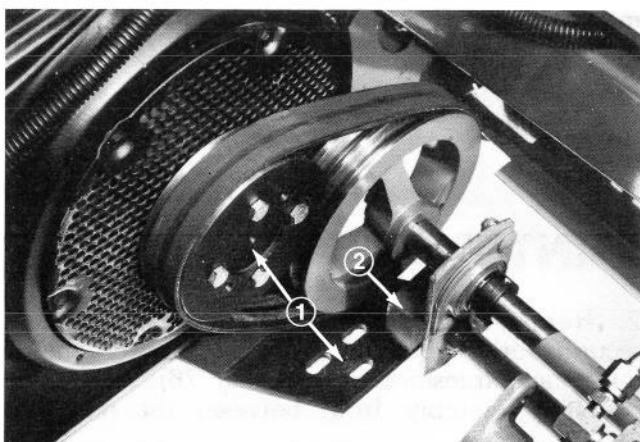
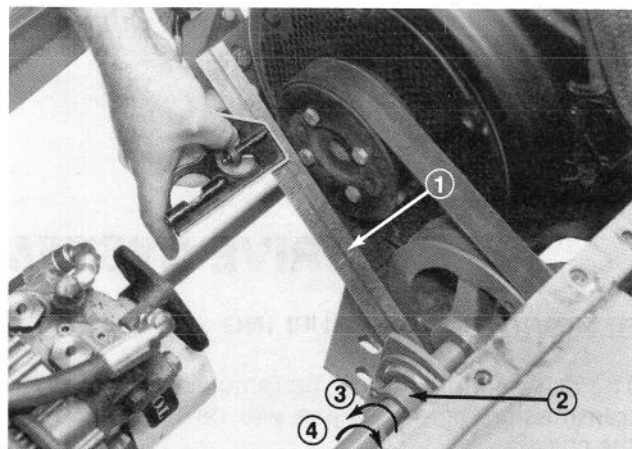

Figure 77
Figure 79
3. Remove three capscrews, flatwashers, lockwashers and nuts securing PTO brake bracket to mounting flange on engine plate (Fig. 77).
6. Install new belts around the PTO shaft pulley and engine pulley (Fig. 77), engage the PTO lever to tension belt and lay a straight edge along the bottom face of the engine and PTO pulleys to check alignment (Fig. 79). If pulleys are aligned within 1/16 inch (1.6 mm), proceed to step 6. If they are not aligned within 1/16 inch (1.6 mm) loosen locking collars on PTO shaft and shift shaft and pulley until proper alignment is achieved (Fig. 79). Relock collars.